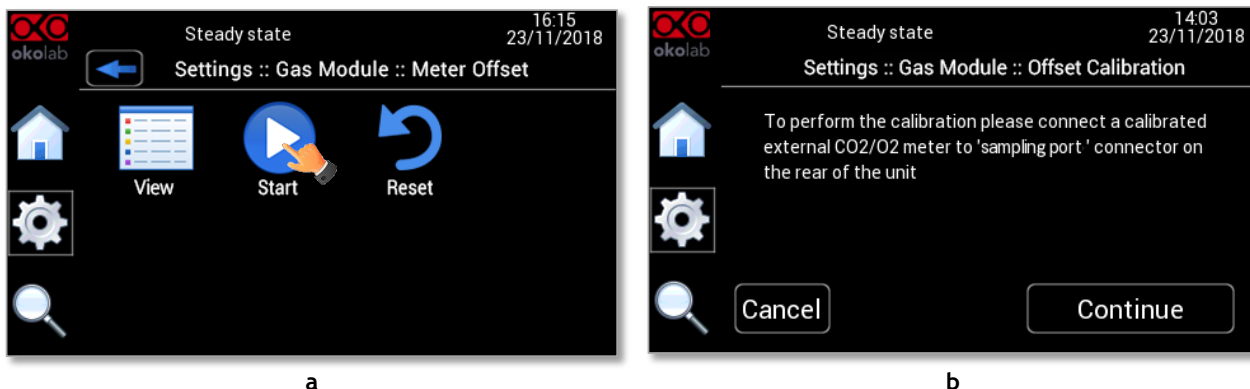

Figure 39. How to start a calibration procedure by an external gas meter (a – b).
Press on **Start**  icon (see Figure 39 a) for starting the manual procedure and follow the instructions shown in the page opening (see Figure 39 b)
5. Press on *Continue* button as shown in Figure 39 b.